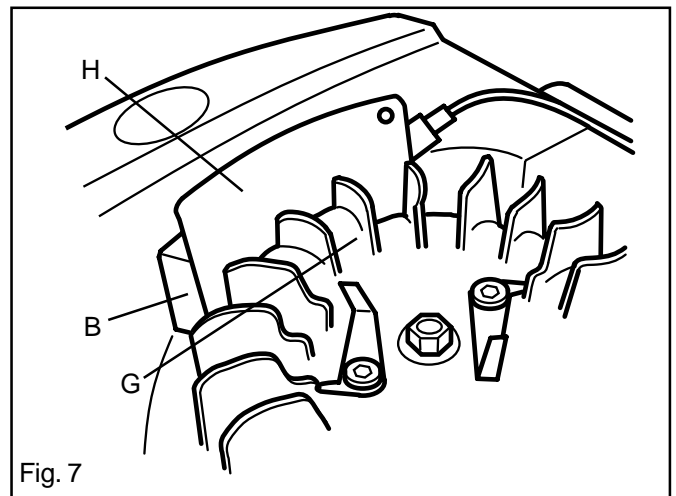

Fig. 7
6. Turn the flywheel so that its magnet (G) comes opposite the ignition module. See fig. 7.
7. Insert the feeler gauge (H) (0.3 mm) between the ignition module and the flywheel magnet. The clearance only applies to the two lower pegs on the ignition module. See fig. 7 and 8.